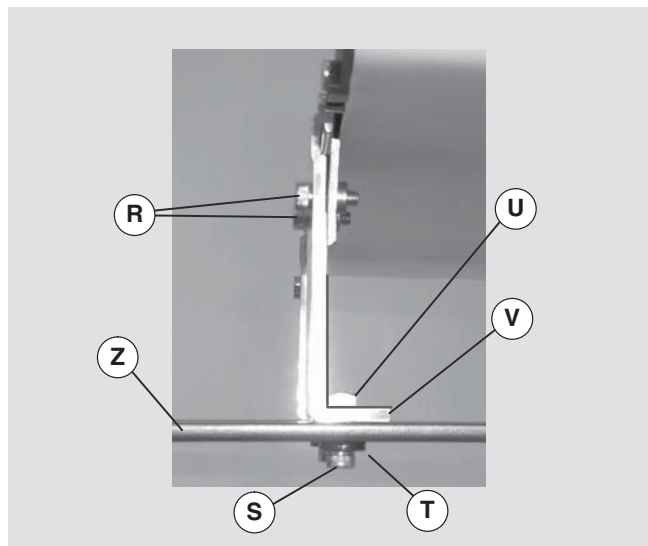

Figure 11
- Attach stand mounting bracket (Figure 11, item V) to stand (Z) with two screws (S), hard washers (T) and square nuts (U). Tighten screws (S) to 80 in-lb (9 Nm).